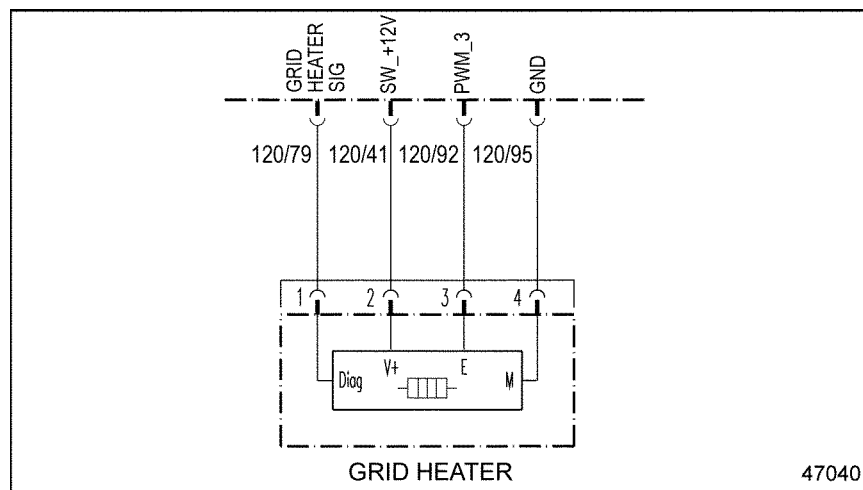

Figure 35-1 Grid Heater Wiring
3. Measure the voltage between pins 2 and 4 of the Grid Heater connector. See Figure 35-1.